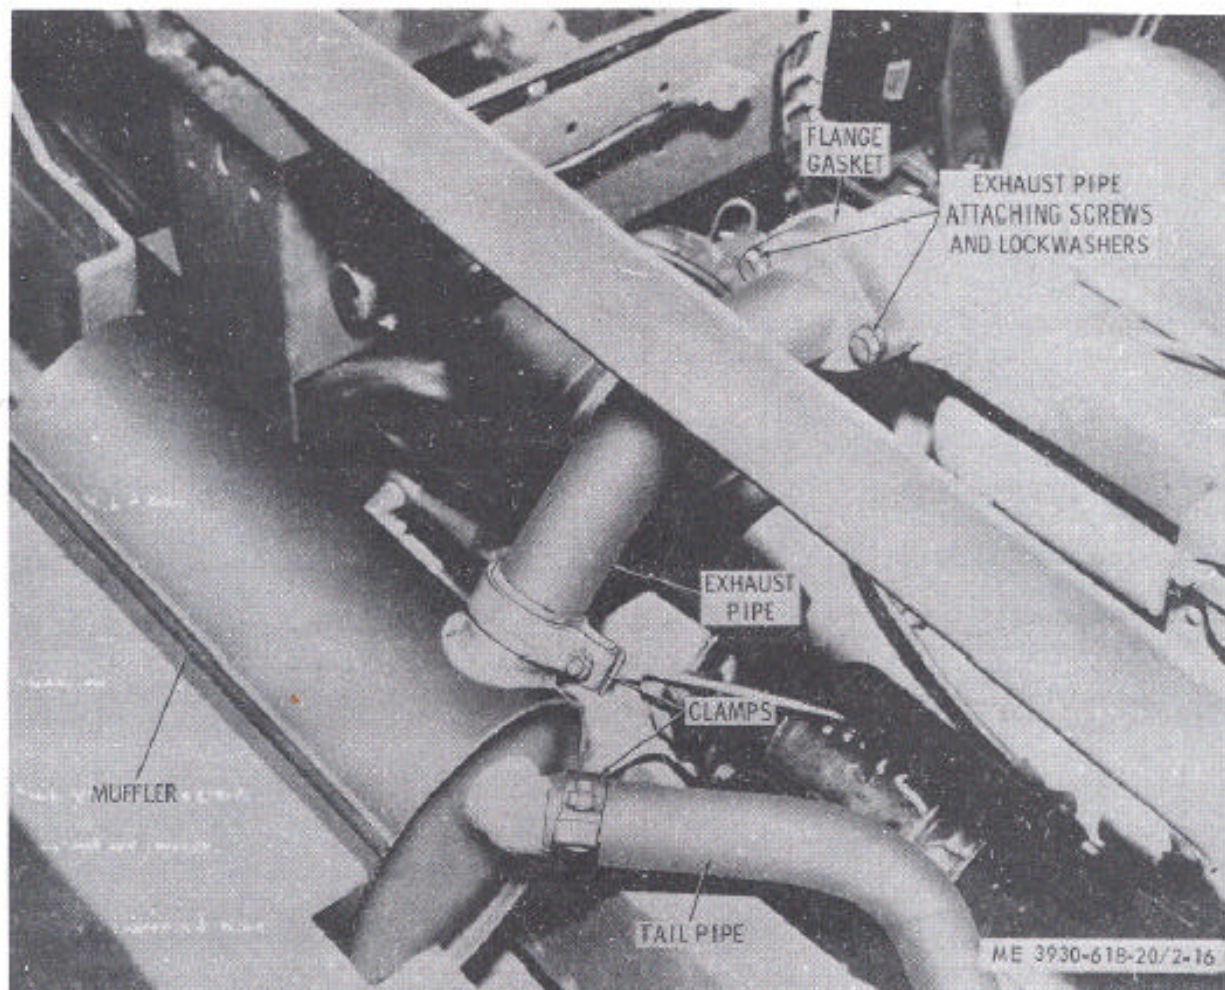

Figure 2-16. Muffer and pipes, installed view.
*a. Removal.* Refer to figure 2-16 and remove the muffler and pipes as follows:
(1) To remove the muffler, remove the exhaust pipe (2) below and loosen the clamp securing the tailpipe to the muffler. Lift out the muffler.
(2) To remove the exhaust pipe, remove the 2 screws and lockwashers attaching it to the engine exhaust manifold. Then loosen the clamp securing it to the muffler and remove the clamp and flange gasket.
(3) To remove the tailpipe, loosen the clamp securing it to the muffler and remove the rear clamp (not shown). Lift out the tailpipe and sleeve. (not shown).